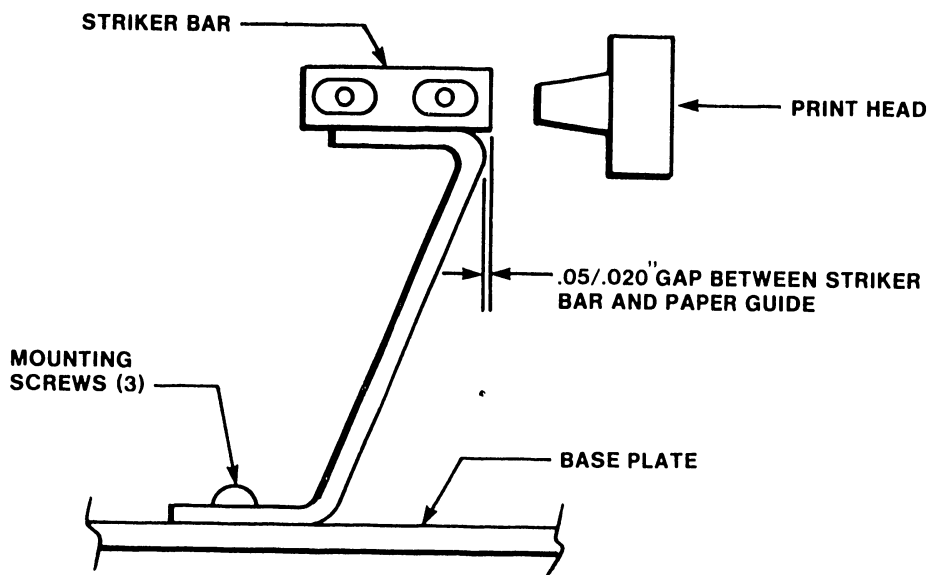

Figure 5-4 Striker Bar To Paper Guide Clearance Check
- a. Using a feeler gauge, check the distance between the front of the striker bar and the paper guide, as shown in Figure 5-4. The distance from the front of the striker bar to the front of the guide should be from 0.020" to 0.050" (0.5mm to 1.3mm), when measured at the left and right ends of the striker bar.
- a. Using a screwdriver, loosen the three screws located on the top of the striker bar. See Figure 5-4, for screw location. Also loosen the three screws that fasten the paper guide to the baseplate.
- b. Using a feeler gauge to measure the distance from the front of the striker bar to the front of the paper guide; adjust the guide in or out until the distance is in the range of 0.020" to 0.050" (0.5mm to 1.3mm), as shown in Figure 5-4.